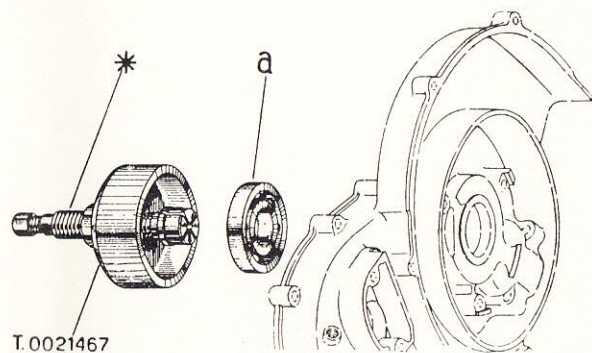

Fig. 40.
N.B. This operation can be carried out only if the flywheel side main bearing remains on the crankshaft; if instead it slides off with the crankcase half, remove the ball bearing with the procedure illustrated in Fig. 40 before dismantling the oil seal.